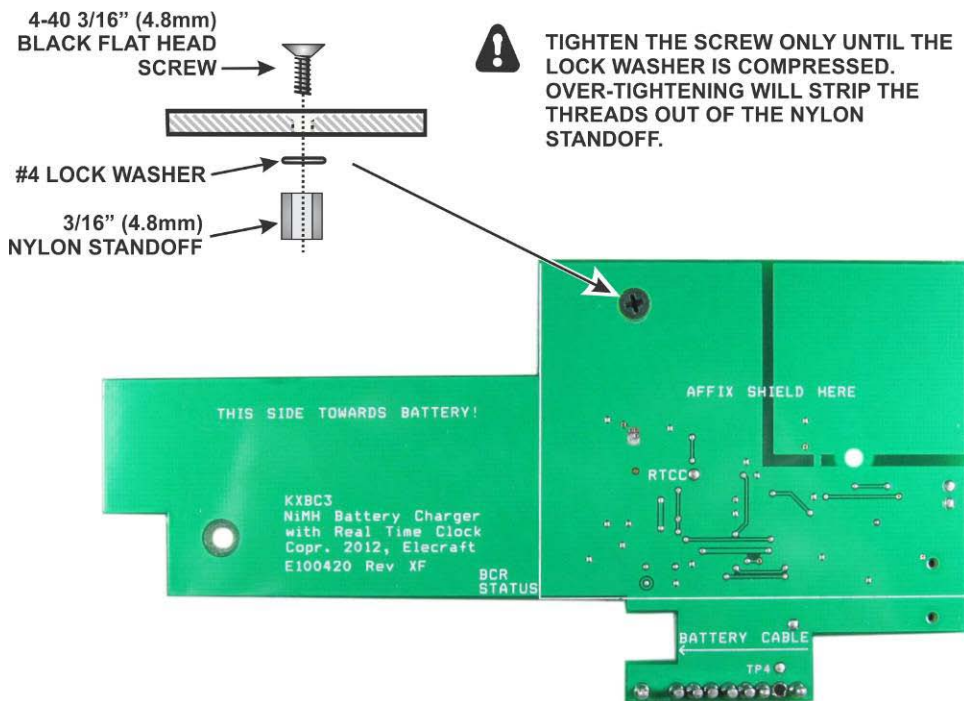
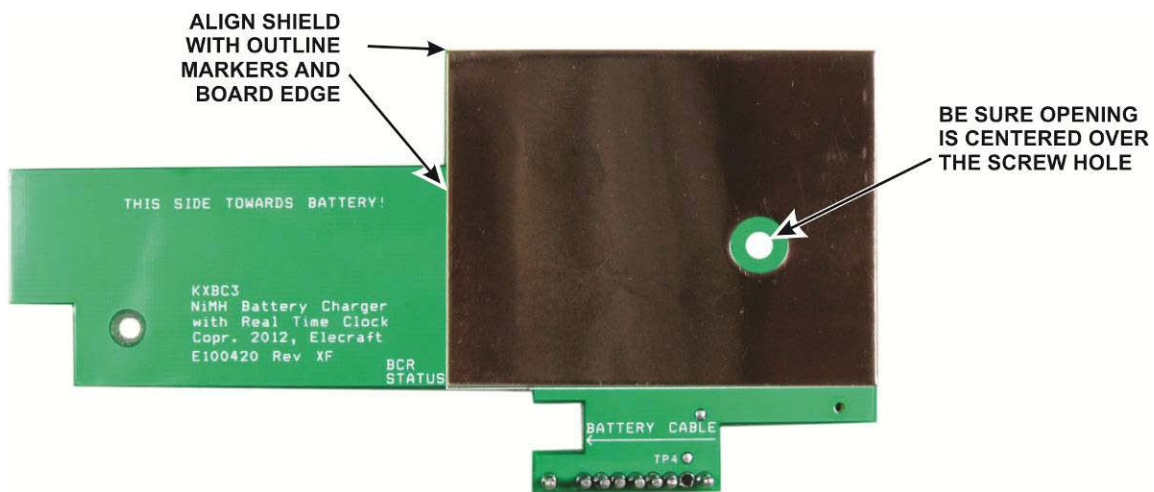

Figure 3. Mounting the Nylon Standoff on the KXBC3 Module.
Figure 4. Positioning the Shield on the KXBC3.
- Carefully remove the two screws holding the battery retainer and lift the retainer free of the KX3 (See Figure 3). Be careful not to lose the lock washer under the 2-56 screw inside the KX3. Note that some areas of the control panel board may have a milky white coating over it (see Figure 4). That is normal.